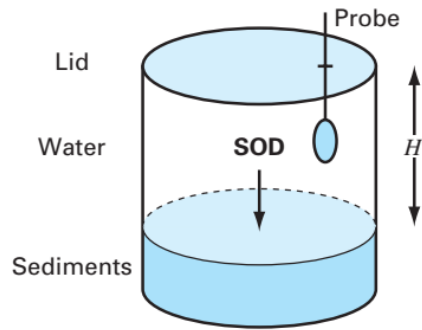

FIGURE P21.35
21.35 The sediment oxygen demand [SOD in units of $\text{g}/(\text{m}^2 \cdot \text{d})$] is an important parameter in determining the dissolved oxygen content of a natural water. It is measured by placing a sediment core in a cylindrical container (Fig. P21.35). After carefully introducing a layer of distilled, oxygenated water above the sediments, the container is covered to prevent gas transfer. A stirrer is used to mix the water gently, and an oxygen probe tracks how the water's oxygen concentration decreases over time. The SOD can then be computed as